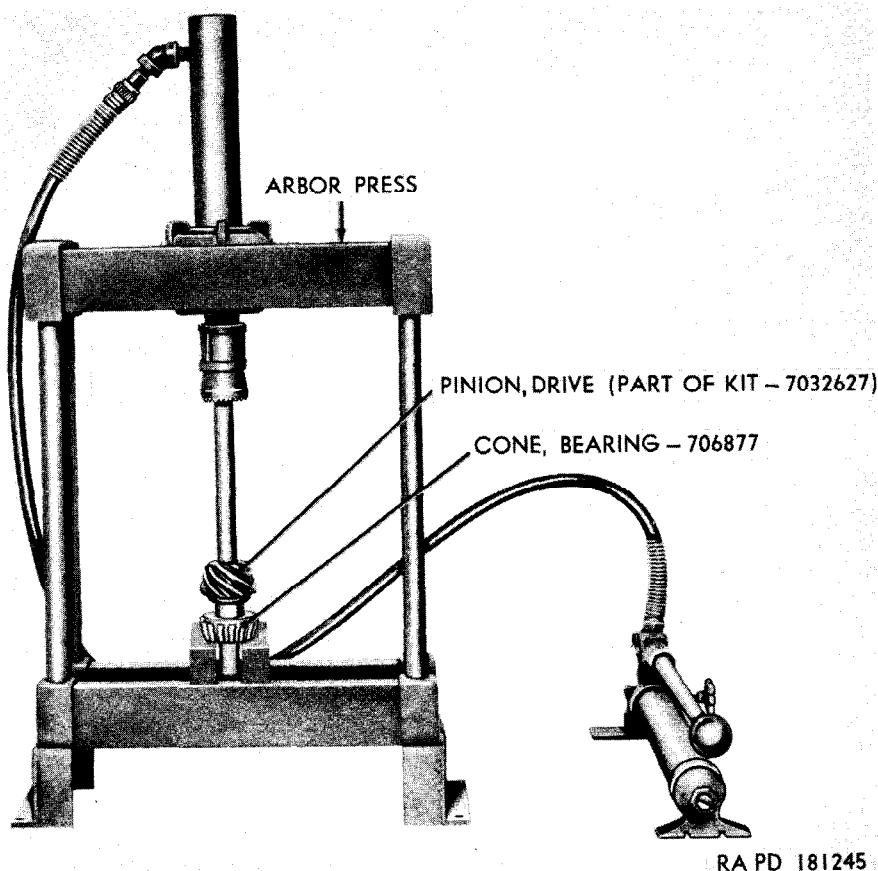

Figure 109. Installing front axle drive pinion inner bearing cone.
- (2) *Repair.* Correct any slight faults; such as scores, burs, and scratches: on drive pinion with a hone. Repair damaged threads on drive pinion (M-2) with a standard thread chaser or on lathe, if possible.
c. *Assembly* (fig. 109). Using a suitable arbor press, press the drive pinion inner bearing cone in position on the drive pinion.